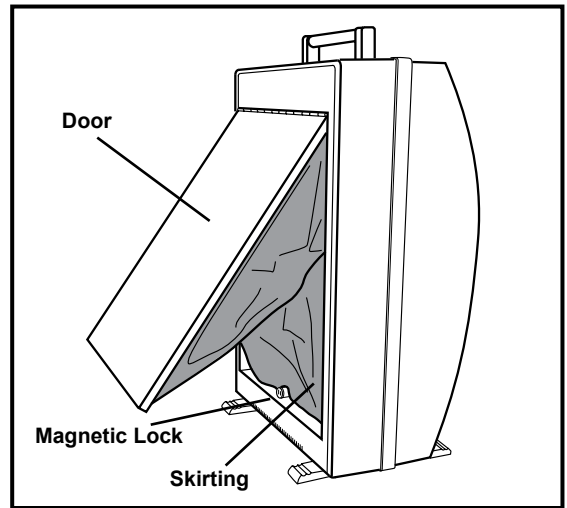

Figure 3
2. Gently press in on the bottom of the cover door located on the backside of the Skin Scanner (fig. 3). The cover door will disconnect from the magnetic lock that secures the door when closed.